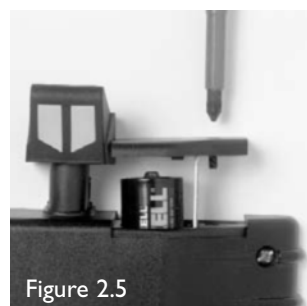

Figure 2.5
- 6) Open battery compartment using a Phillips / Pozidrive No.2 Screwdriver. Insert the batteries supplied (+) positive side up. Close the battery compartment by tightening the screw down firmly (Do not over tighten as this will damage the battery lid). **(Fig 2.5)**